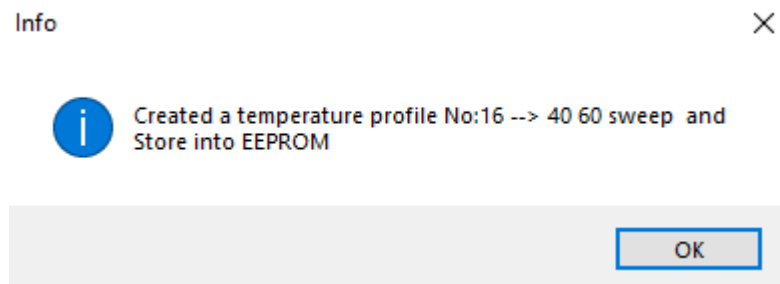

Figure 2.9: Temperature Profile Pop-up
- (1) To make a **new** profile, go to the profile which you want to edit (be it existing or user defined profile)
- (2) Name the profile
- (3) Choose the user specified profile mode and parameters (T1 & T2). After which, click on **generate**⁹. This would result in a pop-up appearing as shown in Figure 2.9.
- (4) If the user has steps which need to be repeated, insert the number of times to be repeated.
- (5) The information would have been generated. However, the user is able to change the duration and ramp rate as you like¹⁰.
- (6) After you have done making input into the profile, save the settings by clicking on **“Save to MCU”** and you have successfully made a temperature profile. After saving, you would be able to save the project file as shown in 2.5: Tab: Advanced